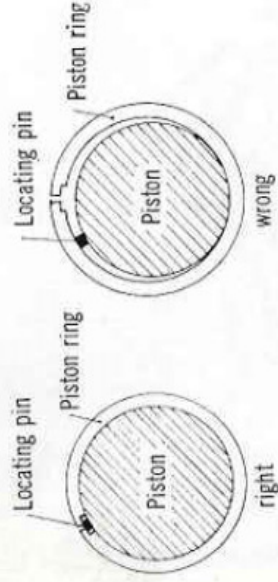

Fig. 8-3-27
- C. Align the piston ring open ends with the piston ring locating pin set in the piston ring groove. (Fig. 8-3-27)